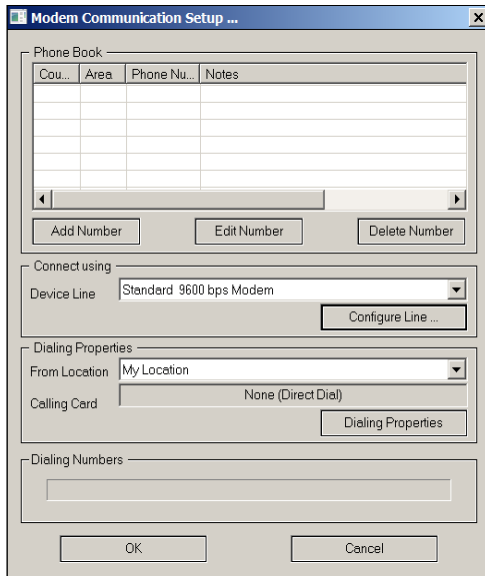

Figure 9-12 Modem Communication Setup
- a. Ensure that the correct modem is displayed, then select **Setup**, TapTalk will display the **Modem Communication Setup** screen (Figure 9-12).